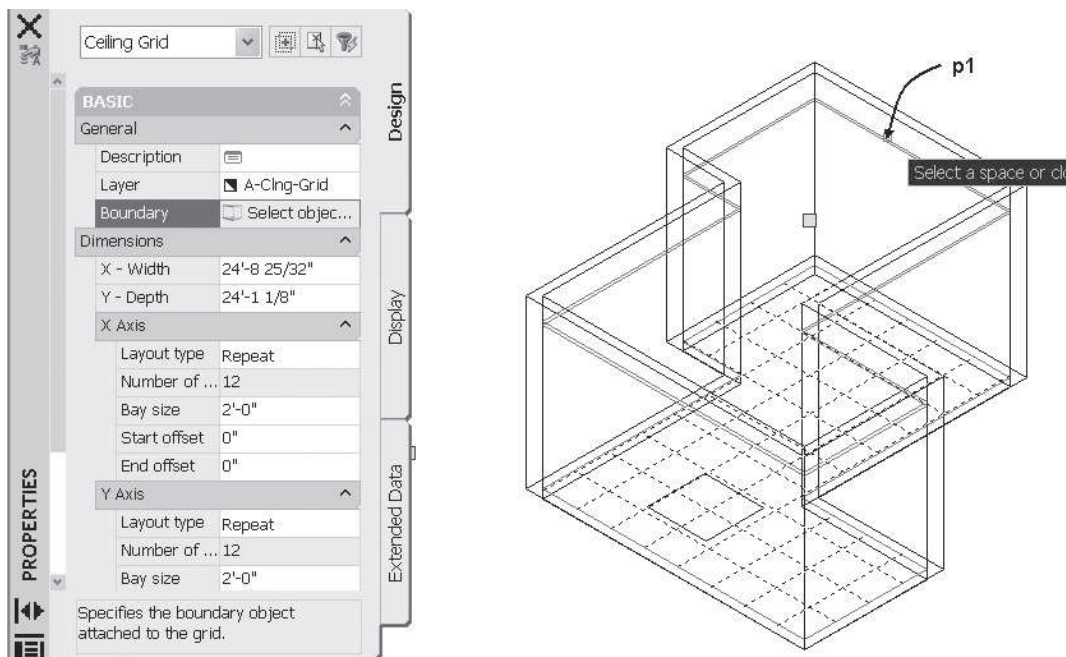

FIGURE 13.59 Select the ceiling polyline boundary
7. Select **SW Isometric** view from the **View** Cube. Select the ceiling grid, choose **Select object** from the **Boundary** field of the Properties palette, and then select the ceiling boundary at p1 as shown in Figure 13.59.